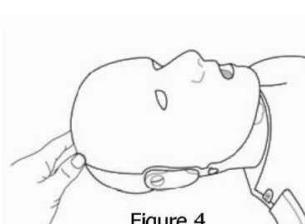

Figure 4
4.Tilt the head of the manikin (Figure 4).